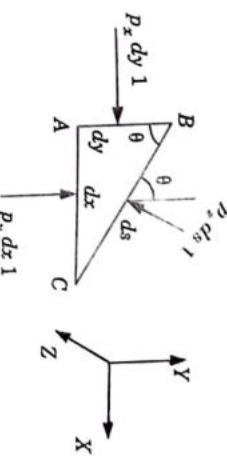

Fig. 3.9.1.
3. Consider an arbitrary fluid element of wedge shape in a fluid mass at rest as shown in Fig. 3.9.1.
$$10. \text{ But from Fig. 3.9.1, } ds \cos \theta = AB = dy$$